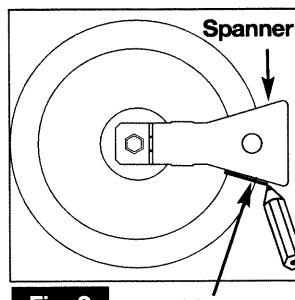

Fig. 3
- With a pencil draw a line on the hearth plate as indicated (fig. 3).